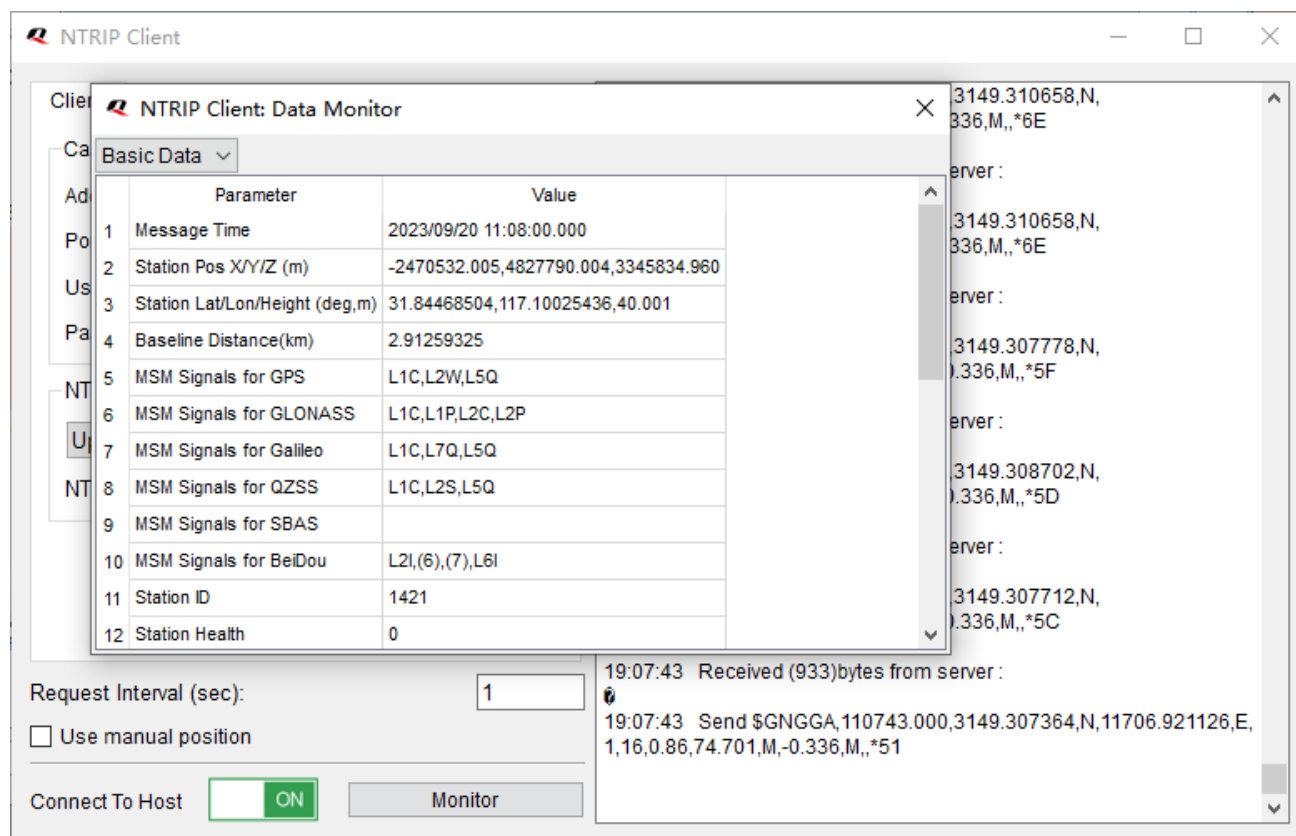

Figure 30: RTK Data Monitor
Step 5: Click “**Monitor**” button to open the “**NTRIP Client: Data Monitor**” window where you can view the differential correction data sent by the server, as shown in Figure 30: RTK Data Monitor.